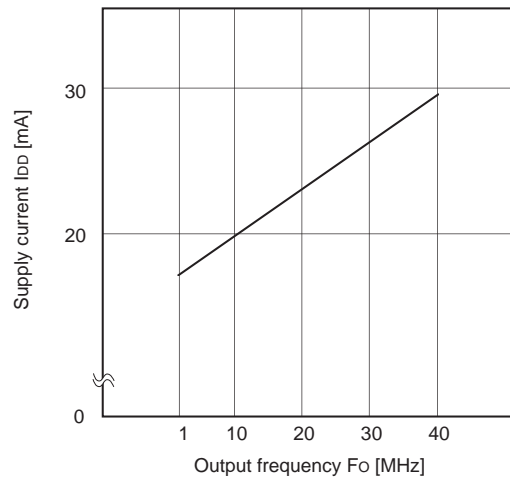

Fig. 4. Output frequency vs. Supply current
- Input data in Fig. 4=all 0, rectangular wave of all 1, clock freq.=80MHz.